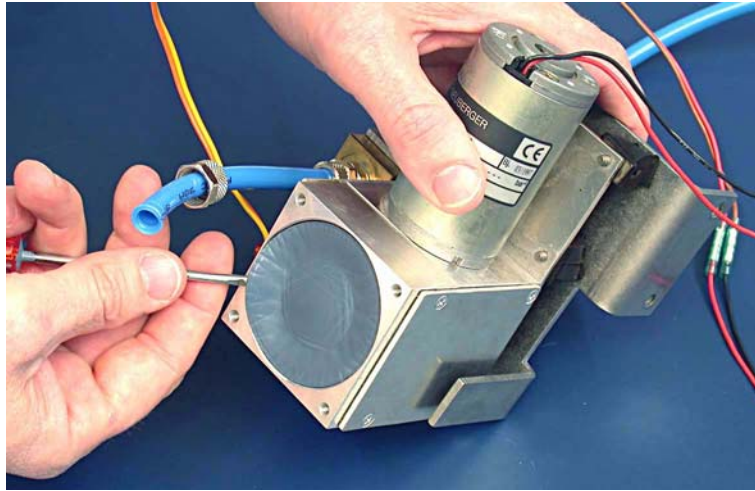

Figure 11-175. Levering up the membrane
3. Unscrew the membrane that comprises the “piston”. To do this, first access an edge of the membrane by levering it up with a small screwdriver. (Figure 11-175.)